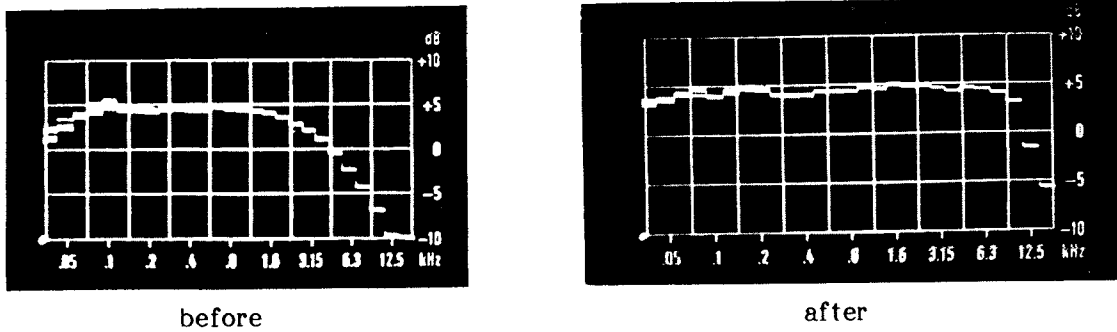

Fig. 7.2.6
- (i) When azimuth and h.f. have been optimised in (h) obtain flat h.f. response in left and right channels using the Optical Pre-amplifier ② h.f. controls (Fig. 7.2.6). The response should be flat up to a limit determined by the slit size, with a rapid fall above a certain frequency. Attempt to achieve a flat frequency response without any peaks rather than an extended response which may have a small high frequency peak which may introduce audible coloration. Different results will be obtained from projector to projector, but in all cases a response flat to 10 kHz should be obtained. In cases of a poor high frequency response, inspect slit.